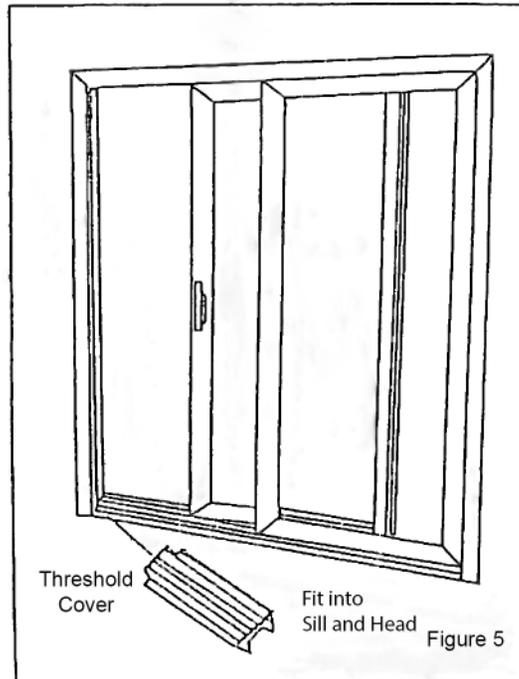

Figure 5
C. Final Panel Installation (Figure 5)